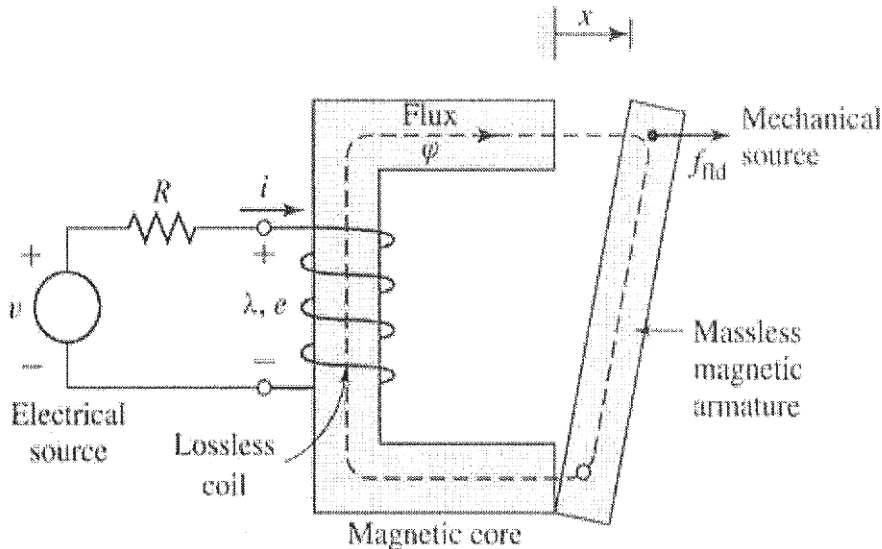

Fig.1
1. a) Consider the operation of an electromagnetic relay shown in fig.1, where one winding is mounted on a stationary member of iron and a movable member of iron is attached to a wall of the relay by a spring on one side. Now show that the energy converted to mechanical form equals the area between the two magnetization characteristics (flux vs. mmf) respectively for the open position and closed position with respect to movement of the plunger. Assume the necessary parameters for the system concerned.
b) Derive the expressions for mechanical force if the plunger shown in fig.1 is allowed to move an infinitesimal distance in the direction of magnetic force acting upon it.
b) In an electromagnetic relay shown in **fig. 1**, if the exciting winding has 2000 turns. The cross-sectional area of the magnetic core is $1 \text{ cm} \times 1 \text{ cm}$. The reluctance of the magnetic circuit may be assumed to be negligible. Also neglect fringing effects.